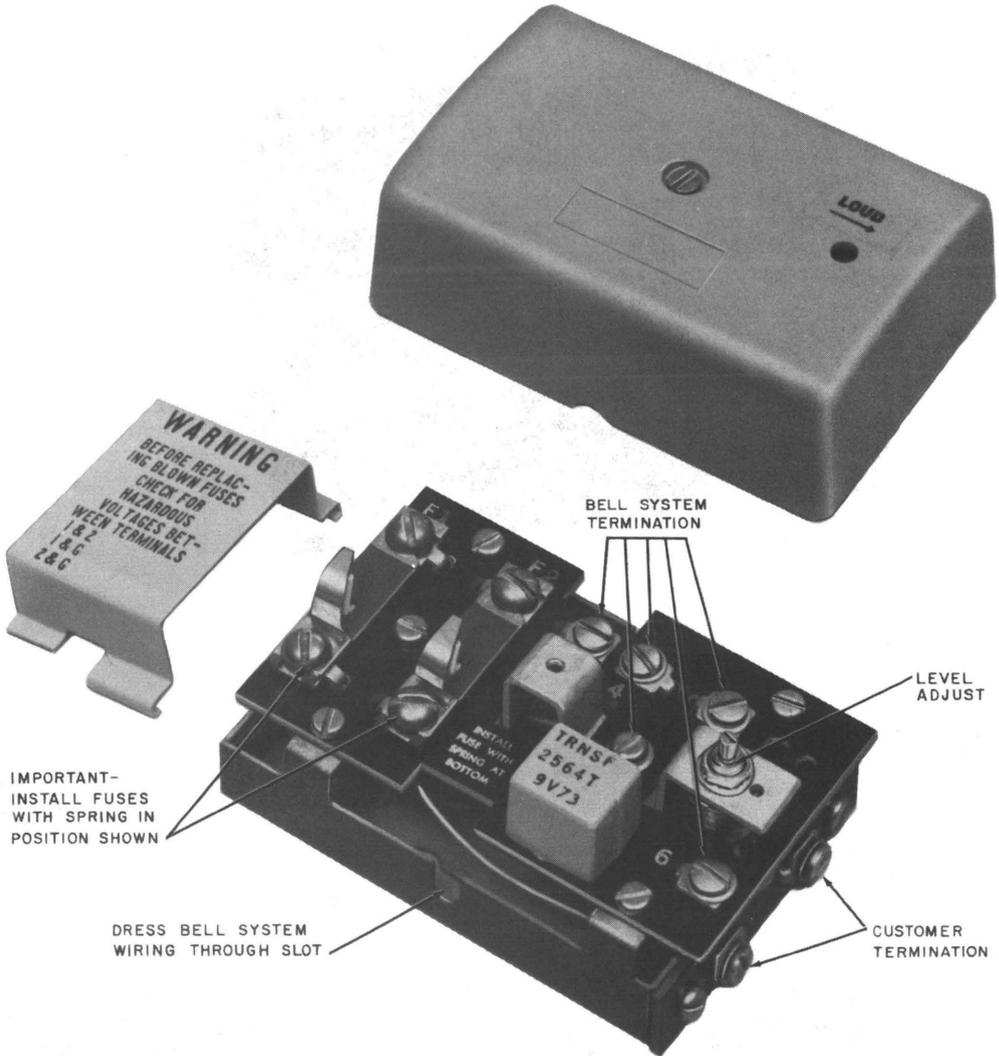

Fig. 25—33A Voice Coupler
**2.26 33A Voice Coupler**—Provides a high-fidelity connection between a customer-provided music or information source and the music-on-hold circuit and/or paging amplifier circuit in the 7A, 14A, or 21A Communication System for the music-on-hold feature and/or background music over the paging speakers when the paging circuit is not in use. (See Fig. 25.)